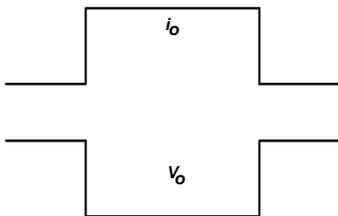
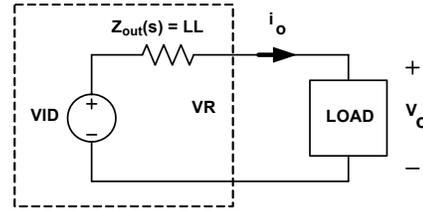

FIGURE 23. DESIRED LOAD TRANSIENT RESPONSE WAVEFORMS
FIGURE 29. VOLTAGE REGULATOR EQUIVALENT CIRCUIT
Assuming the compensator design is correct, Figure 23 shows the expected load transient response waveforms if  $C_n$  is correctly selected. When the load current  $I_{core}$  has a square change, the output voltage  $V_{core}$  also has a square response.
Figure 23 shows the desired load transient response waveforms. Figure 29 shows the equivalent circuit of a voltage regulator (VR) with the droop function. A VR is equivalent to a voltage source (= VID) and output impedance  $Z_{\text{out}}(s)$ . If  $Z_{\text{out}}(s)$  is equal to the load-line slope LL, i.e., a constant output impedance, then in the entire frequency range,  $V_o$  will have a square response when  $I_o$  has a square change.